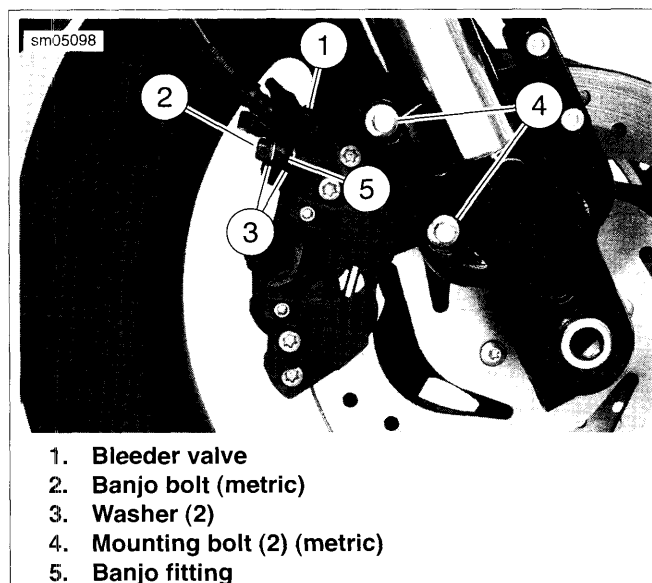

Figure 2-71. Front Caliper Assembly: XR Models
1. See Figure 2-71. Remove bleeder nipple cap from bleeder valve (1) on front brake caliper.
3. See Figure 2-71. Remove the banjo bolt (2) (metric) and both washers (3) to detach front brake line from caliper. Discard washers.
4. Remove both mounting bolts (4) (metric). Pull caliper assembly rearward to remove from brake disc.